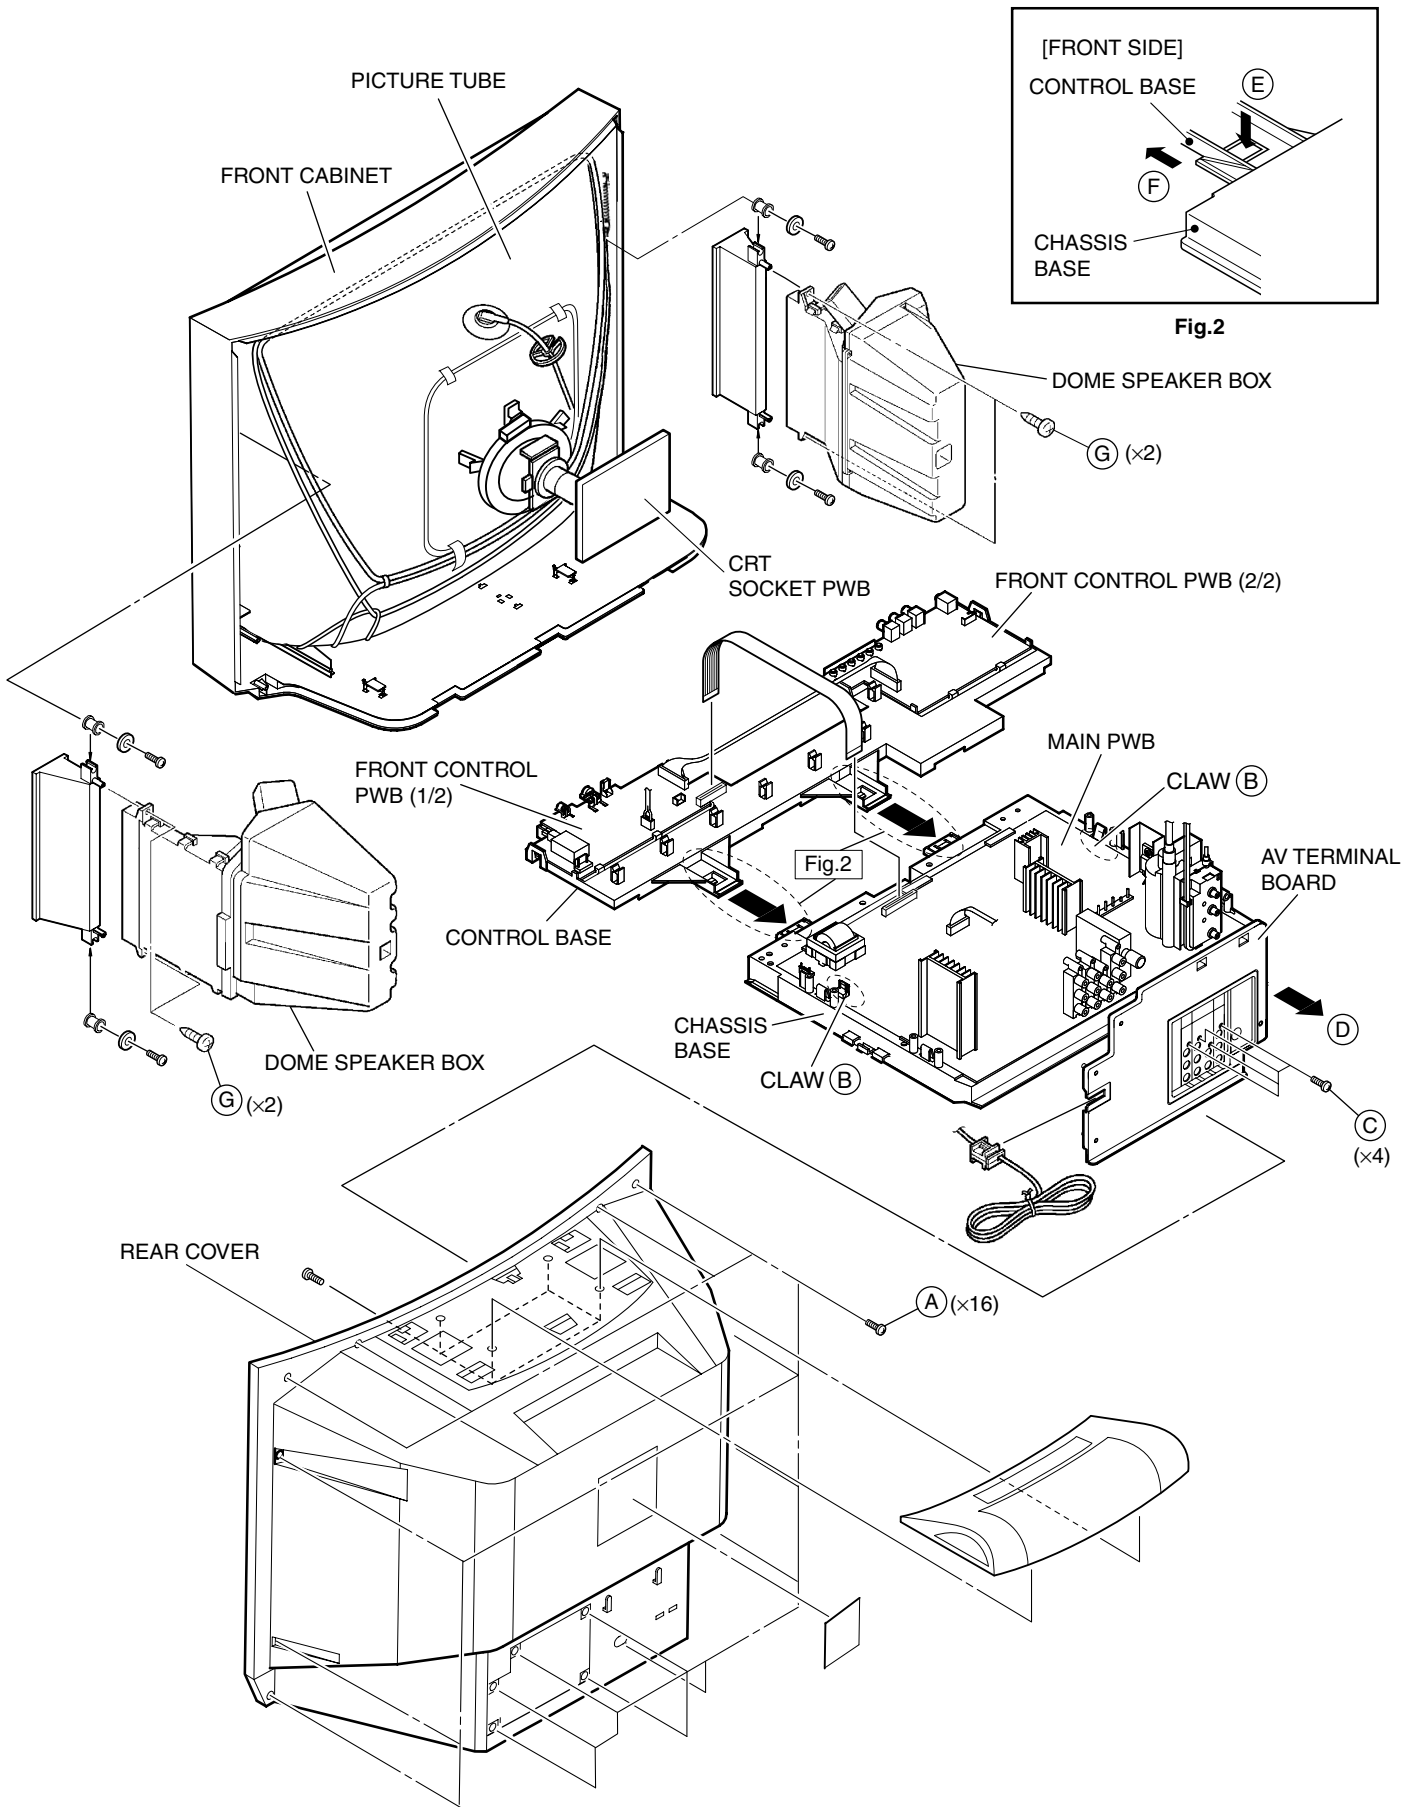

Fig.1
1. Remove the 4 screws marked (C) as shown in Fig.1.
2. When you pull out the AV Terminal board in the direction of arrow marked (D) as shown in Fig.1, it can be removed.
1. Remove the lower side screw marked "(G)" first, and then the upper side screw as shown in Fig. 1.